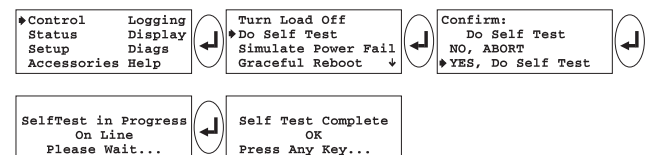

Fig 5-23 Initiate a Self Test Sequence
- ❑ 9. Perform a self test by following the screen sequence in figure 5-23.